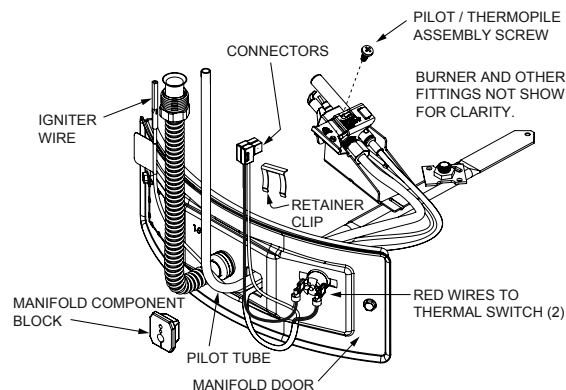

FIGURE 35.
2. Natural Gas/LP Models - Remove the burner to access the pilot/thermopile assembly. Remove and keep the screws securing the burner to the manifold (Figure 35).
4. Lift the retainer clip straight up from the back of the manifold component block (using a flat-blade screwdriver), then remove the manifold component block from the manifold door (Figure 35). **IMPORTANT:** Be careful not to bend or alter the position of the pilot tube, it will be used